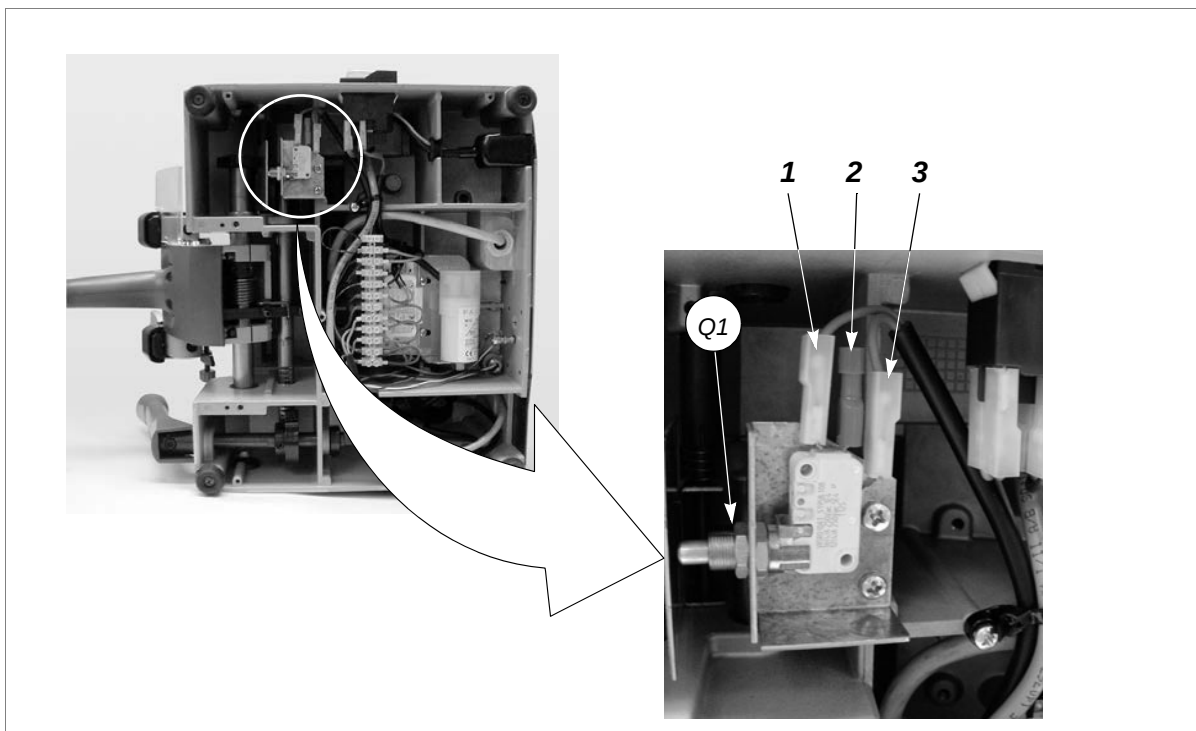

Fig. 37
- 4) Loosen the nut (Q1) and remove the microswitch (fig.37).